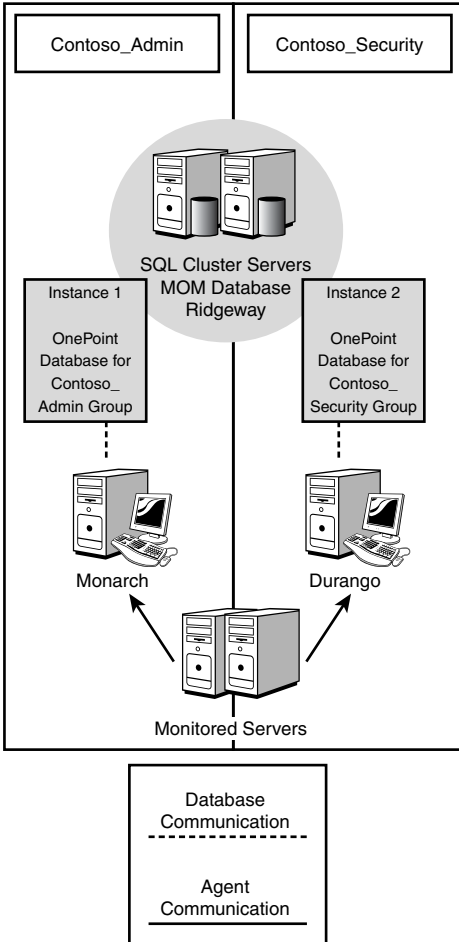

FIGURE 10.5 Active/Active SQL database cluster.
- ▶ When the MOM database is installed on an Active/Active cluster, each node in the cluster can contain its own OnePoint database running on its own SQL Server instance—meaning that both nodes in an Active/Active cluster can house the OnePoint database for a different management group. For example, if we have two management groups (contoso\_admin and contoso\_security) we could install SQL Server using two instances, and install the OnePoint database for each management group onto the cluster, as shown in Figure 10.5.